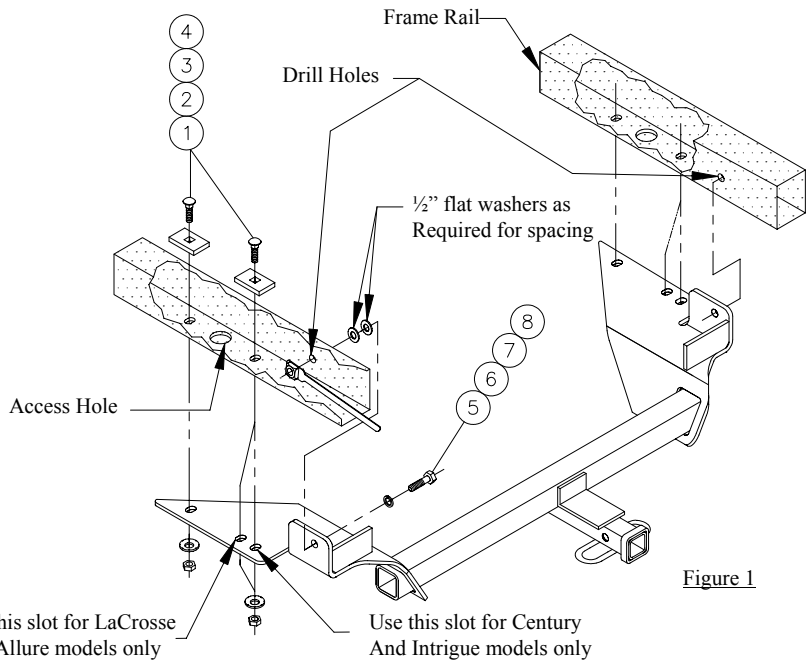

Figure 1
- Raise hitch into position and attach with carriage bolts as shown in figure 1.